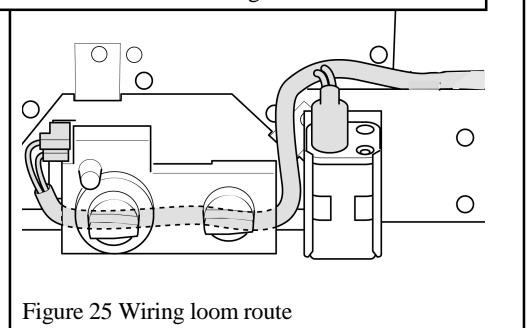

Figure 25 Wiring loom route
When replacing, make sure that the wiring loom runs above and to the left of the battery box and behind the control valve. See figure 25. The motor lead connectors are two different sizes. They will only fit to the correct motor terminals.
- When replacing, make sure that the wiring loom runs above and to the left of the battery box and behind the control valve. See figure 25. The motor lead connectors are two different sizes. They will only fit to the correct motor terminals.
When replacing, make sure that the wiring loom runs above and to the left of the battery box and behind the control valve. See figure 25. The motor lead
- When replacing, make sure that the wiring loom runs above and down to the left of the battery box and behind the control valve. See figure 25.